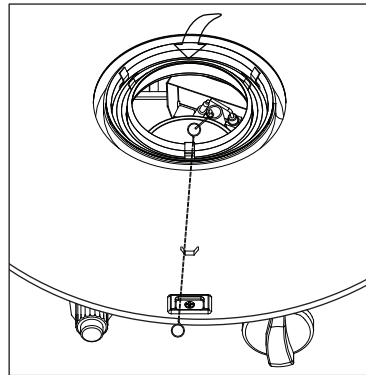

Figure 4
- When you press the ignition button, you can observe whether the pilot is lit up through a glass tube. (Figure 4)